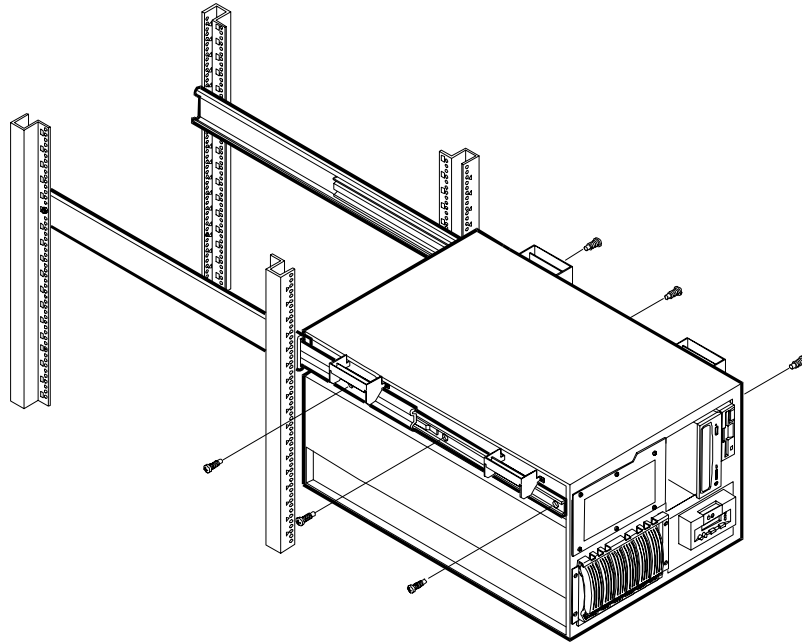

Figure 8-14. Insert Screws through Slides into Server Chassis
5. Let the NetServer rest on its handles while you line up the mounting holes in the top of the HP NetServer LH 3r chassis with the screw holes in the slides. See Figure 8-14.
6. Insert all three screws on each side through the slide members and into the sides of the HP NetServer LH 3r, so that the slides are securely fastened to the server. See Figure 8-14.